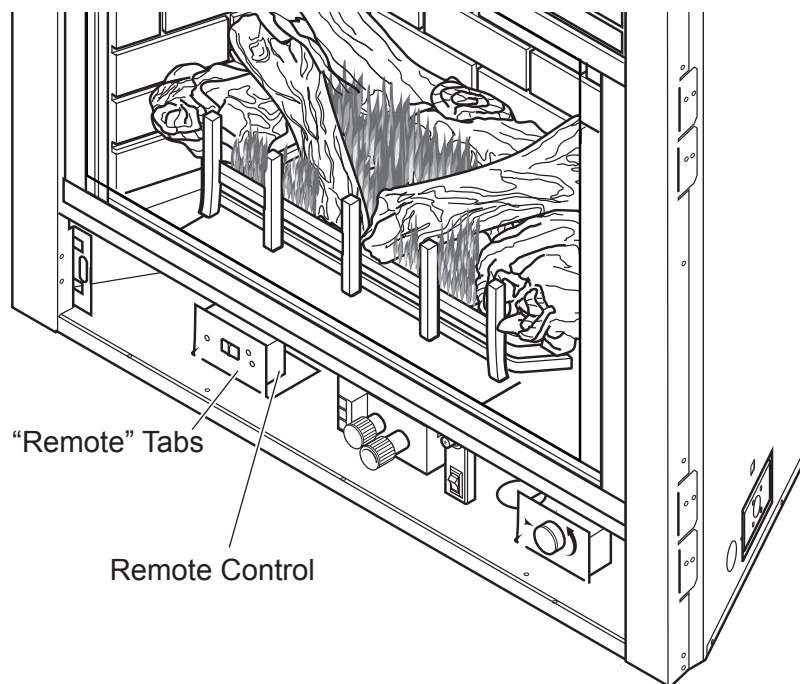

Figure 45 - Remote Control Location
1. Using a flat head screw driver, bend the "remote" tabs up from the bottom of the fireplace. *Figure 45*
4. Use the screws that came with the remote control to mount the remote receiver cover to the bent up "remote" tabs. *Figure 45*